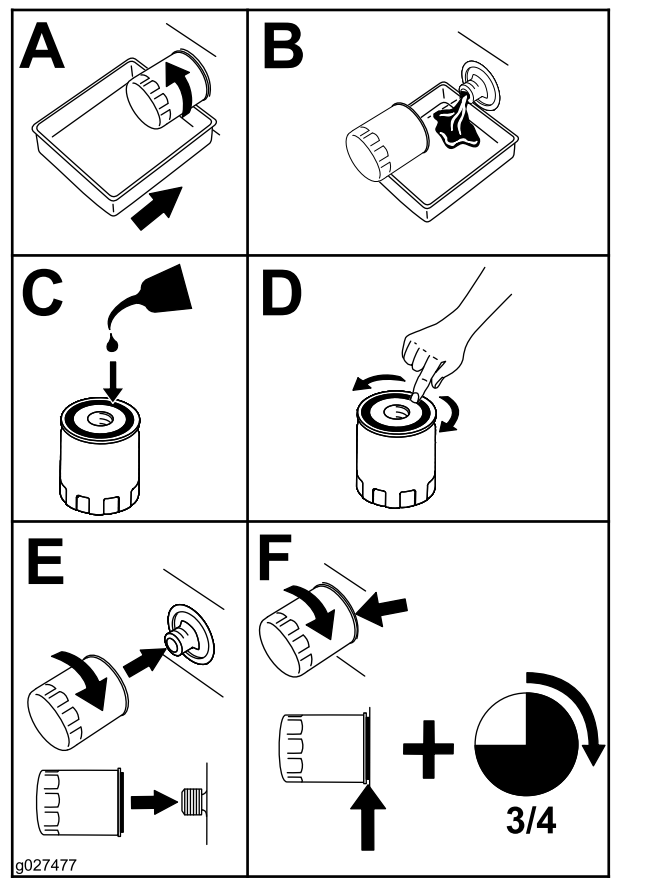

Figure 36
4. Replace the oil filter (Figure 36).